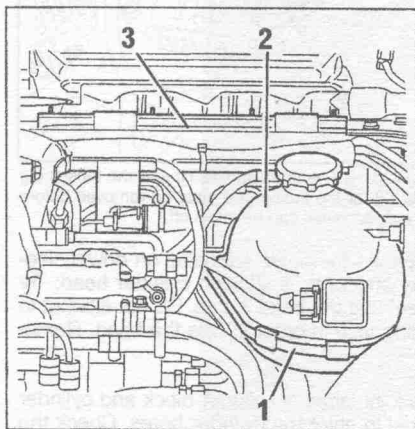

Fig. 1.28. — Expansion tank removal.
- Take off the clamp band (1) in Fig. 1.28, disconnect the hoses from the coolant expansion tank (again a pair of pliers is required) and remove the expansion tank.
- Separate the wiring harness from the harness support (3) in Fig. 1.28 and remove the harness support.